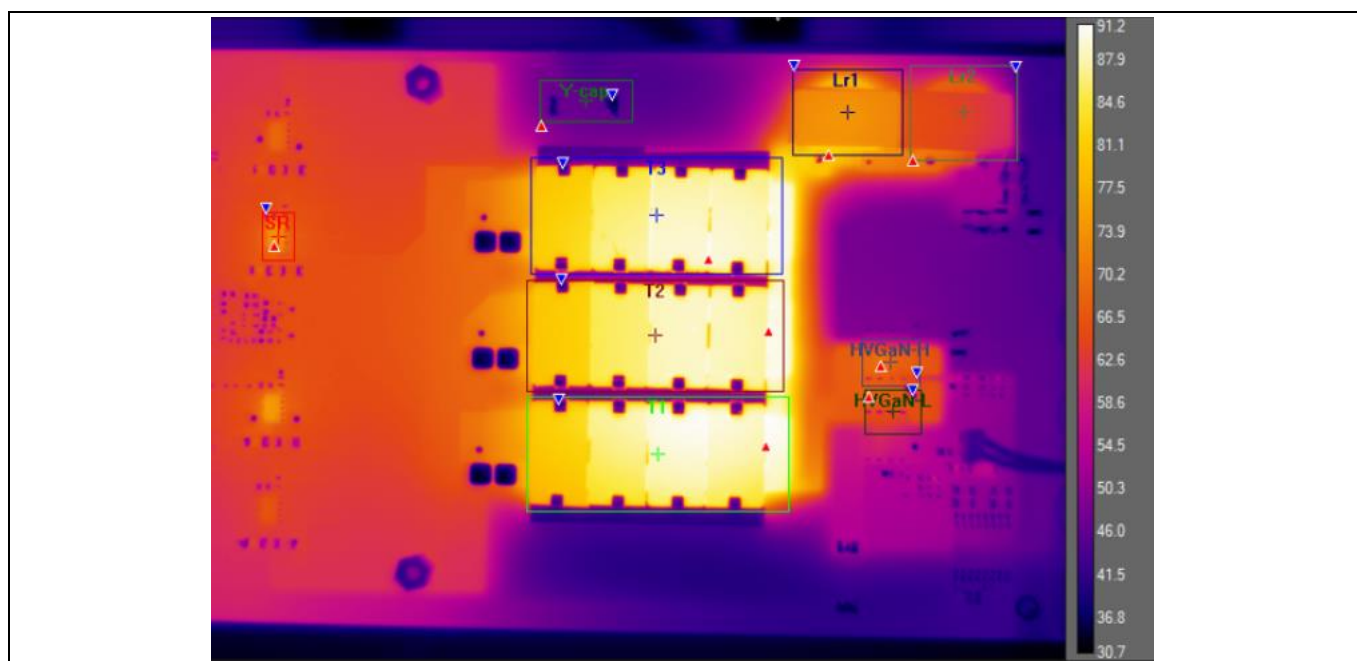

Figure 27 Thermal image of the half-bridge LLC board at full power with 390 V DC input voltage
- Figure 27: Thermal image with 390 V DC input voltage